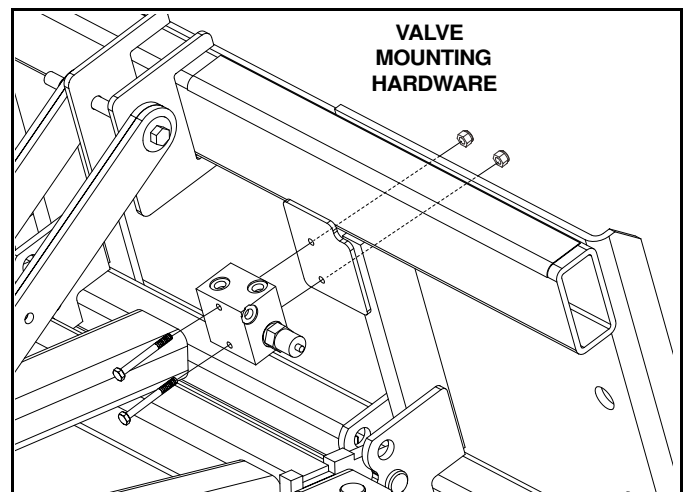

Figure 2-9
5. Install cross over relief block to face of Universal Adapter Plate. (See Figure 2-9)